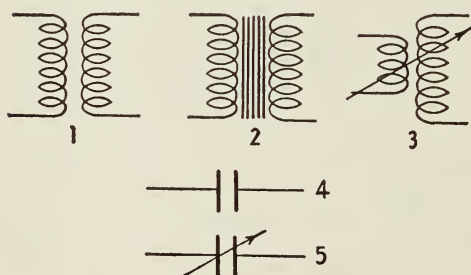

Fig. 370. Symbols used in diagrammatic representations of the parts of a radio circuit.
In order to understand radio drawings, we need to become familiar with certain symbols. Figure 370 shows the symbols used in radio circuits for (1) a transformer with an air